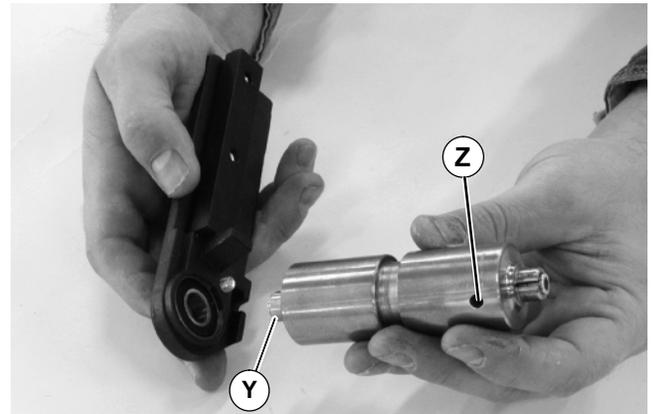
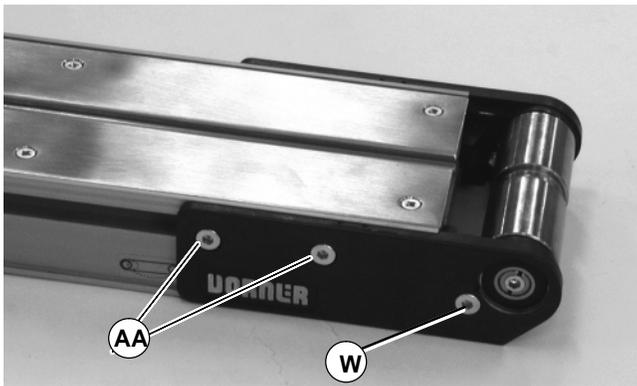
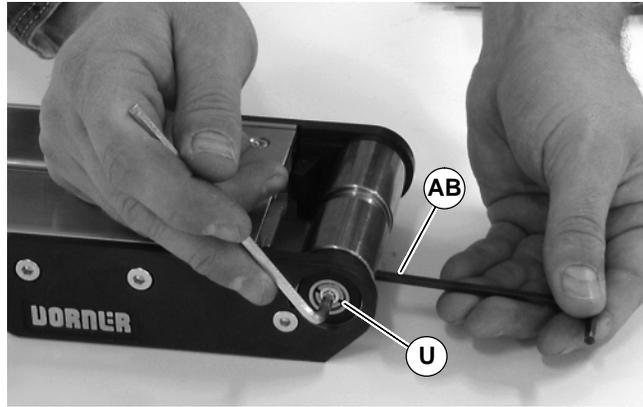

Figure 18
Figure 20
Figure 21
6. With bearing installed in head plate, press bearing onto shaft (Y of Figure 18) of pulley. Repeat for both sides of pulley.
8. On both sides of pulley, use a 4mm hex-key wrench to tighten pulley taper screw (U of Figure 21) to 35 in-lbs (4 Nm). Steady pulley with second hex-key wrench (AB) inserted into pulley hole (Z of Figure 18).
9. On head plate opposite of pulley hole (Z of Figure 18), install screw (W of Figure 20). Tighten to 60 in-lbs (7Nm).